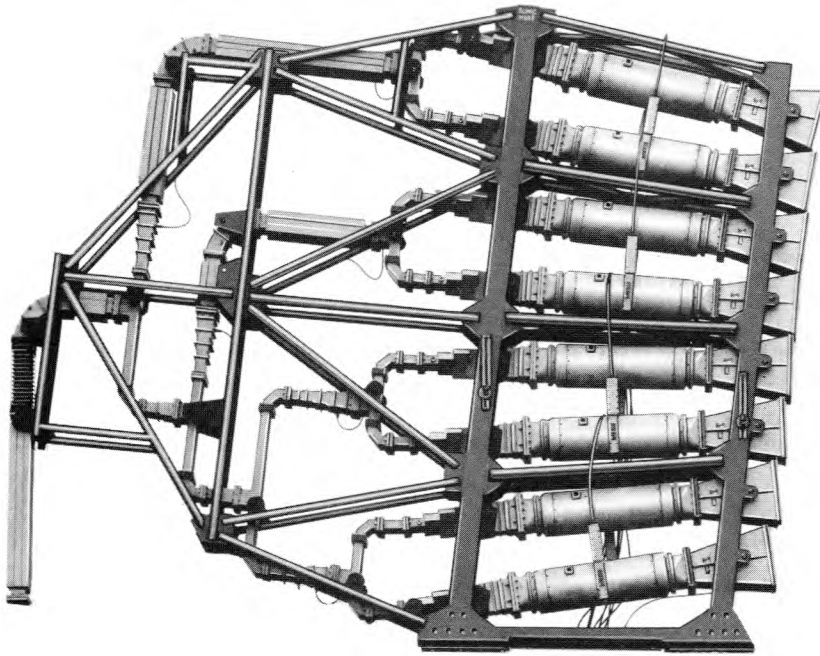

Fig. 1 Hornstack in mounting frame
1. The L-band waveguide components described in this chapter are all those between the transmitter output flange and the aerial feed horns with the exception of the rotating joint (coupler, rotary, r.f.) this being described in Sect 8, Chap.4. The waveguide components up to the hornstack consist principally of straight sections, right-angle bends and lengths of flexible waveguide. An r.f. phase shifter and a low pass r.f. filter are incorporated in the run near the transmitter; these components compensate for the imperfect matching of the long waveguide run, ensuring satisfactory operation of the magnetron. At the hornstack (fig.1) power is distributed in varying proportions via a series of waveguide splitters to eight waveguide polarizers and feed horns. Each polarizer is a length of circular waveguide containing a dielectric vane
18. The hornstack (*fig. 1*) constitutes the multiple horn feed of the aerial. The waveguide components are mounted in the top structure assembly which can be removed as one unit from the lower frame assembly on the end of the boom. Under normal operating conditions the r.f. wavefront from the horns is horizontally polarized, the circular polarization facility being used only to reduce the effects of heavy rain clutter. The narrow top structure assembly houses the eight arms containing the twist and taper sections, the polarizers and the horns. The axes of these arms converge at the vertex of the paraboloid reflector and the vertical stacking arrangement causes little obstruction to the field pattern radiated from the reflector. In order to give the required vertical polar diagram of the aerial, and hence the range coverage pattern of the radar, the amplitude and phase relationship of the r.f. waves emerging from the eight horns is accurately determined by the component dimensions. The amplitude distribution of energy is determined by the dividing ratios of the seven waveguide splitters and the phase distribution by the individual path lengths from the common hornstack waveguide input to the apertures of the eight horns.
20. From the 'cheese' spacer (3) the output is conveyed via a straight pressurized waveguide (4) to splitter (1:1.73) (5). The upper arm of the splitter (5) is a tapered waveguide section passing the output via a straight pressurized waveguide section (6), and E plane bend (2) and a further straight pressurized section (7) to a final 1:1 splitter (8) feeding the top two horns (see para. 25 to 28). The lower arm of splitter (5) is connected via a 90° bend and a tapered section (9) to a further splitter (1:1.73) (10). The upper arm of splitter (10) carries a portion of the output via a tapered section, a straight pressurized section (11), an E plane bend (2) and a further straight pressurized section (12) to a (1:1.73) splitter (13) feeding a further pair of horns below the top-most pair. The lower arm of splitter (10) feeds via a 90° bend and a tapered section (9) another splitter (1:2.05) (14). A matching iris (15) is included between the 90° bend and the tapered section (9). The upper arm of splitter (14) feeds a portion of the output via a 90° bend and a tapered section (16) to a further splitter (1:1.37) (18). This splitter feeds the two penultimate horns. The lower arm of splitter (14) feeds the remainder of the output via a matching iris (15), a tapered section (16) and another iris (17) to a final splitter (1:1.37) (18) which feeds the two lowest horns of the hornstack.
21. Each of the splitters is a T-shaped double corner where the split ratio is determined by the position of the dividing wedge; the wedge forms a hollow V when viewed externally (*fig. 1*). Impedance matching is improved by making each dividing arm in half height waveguide (6.5 in by 1.625 in). Broadband matching is achieved by posts in the half height arms.
22. The two short taper sections (9) restoring the half height splitter output flanges to standard dimensions are precision castings having three quarter-wavelength stepped taper sections. The height ratios of the taper sections are arranged to give a good match in the 1215 to 1365 Mc/s band. The four long taper sections are not stepped.
23. A window, pressure, waveguide (19) (*para. 2*) is inserted before the input flanges of the four final waveguide splitters. The waveguide system from the transmitter up to the four windows is pressurized at 15 lb. per sq. in from the transmitter compressor system.
24. Each window is by-passed by a nylon air bleed tube connected via adaptors (21) to the adjacent splitter and taper sections. This allows a steady low pressure stream of air to pass into the horns where it exhausts to atmosphere. The adaptors in the taper sections have restrictions to ensure the correct pressure drop.